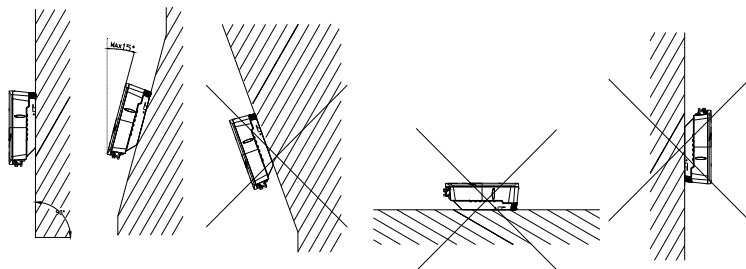

Figure 4.1 Mounting Method
①The equipment employs natural convection cooling, and it can be installed indoor or outdoor.
②Please install the equipment under the guidance of Figure4.1. Vertical installation on floor level is recommended. Mount vertically or tilted backwards by max. 15°. Never install the inverter tilted forwards, sideways, horizontally or upside down.
③Considering convenience for maintenance, please install the equipment at a position parallel with line of sight.
④When mounting the inverter, please consider the solidity of wall for inverter, including accessories. Please ensure the Rear Panel tightly.